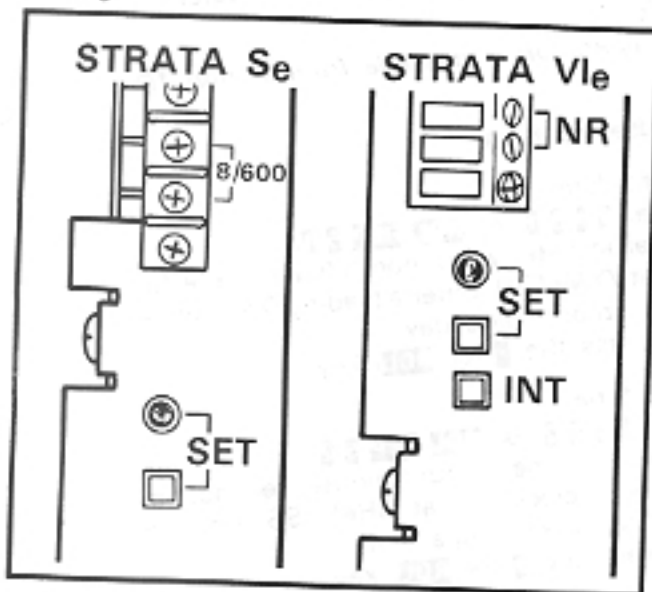

FIGURE 18—Se/Vle INITIALIZING SWITCHES
07.03 To initialize STRATA Se system data memory, refer to Figure 18, temporarily connect a 20-key EKT to station 13, and perform the following:
07.04 To initialize STRATA Vle system data memory, refer to Figure 18, temporarily connect a 20-key EKT to station 17, and perform the following: